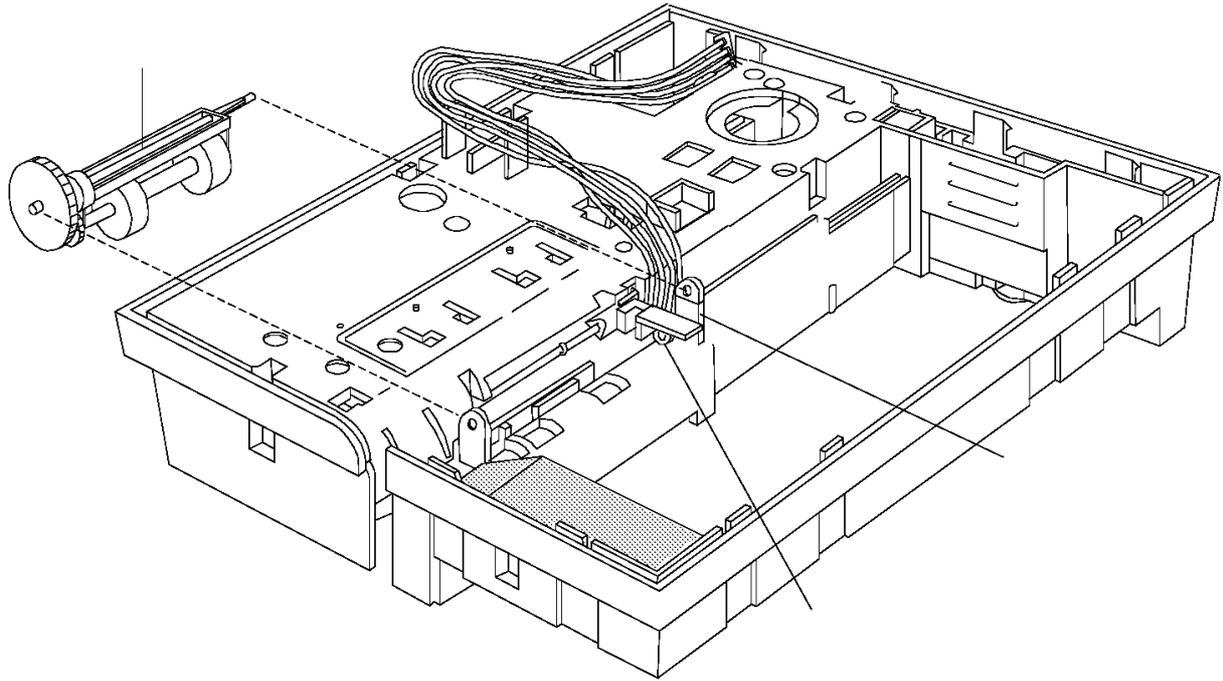

Figure E-15. Part 1. Installing the Toggle Shaft and Document Sensor
1. Put the document insert paper sensor (3) into the frame assembly as shown in Figure E-15 and lock the sensor in place with the retainer (2).
2. Put the toggle assembly (1) into place with the large gear up and toward the side frame, and the rubber rolls toward the frame as shown.